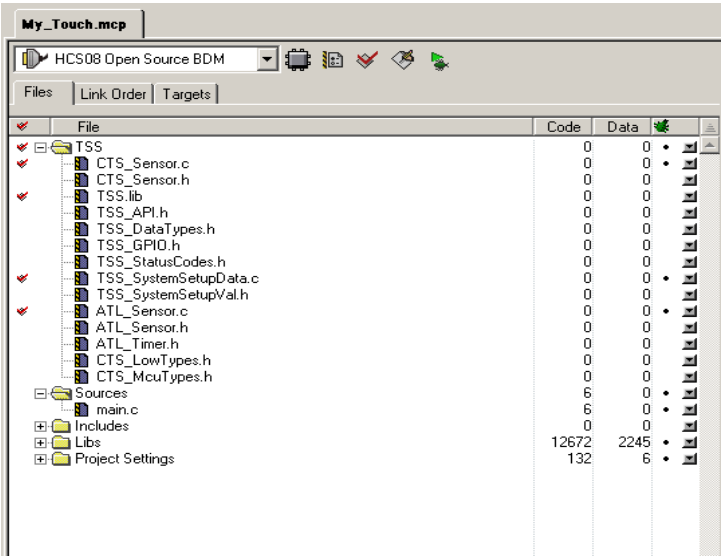

Figure 10. Directory
3. Using Windows Explorer, highlight all 14 files in this directory and drag them into the TSS group. Notice the cursor appears below the TSS folder. The result looks similar to Figure 10. There must be at least 14 files added to the TSS group. A description of each file is found in the TSSAPI reference manual.